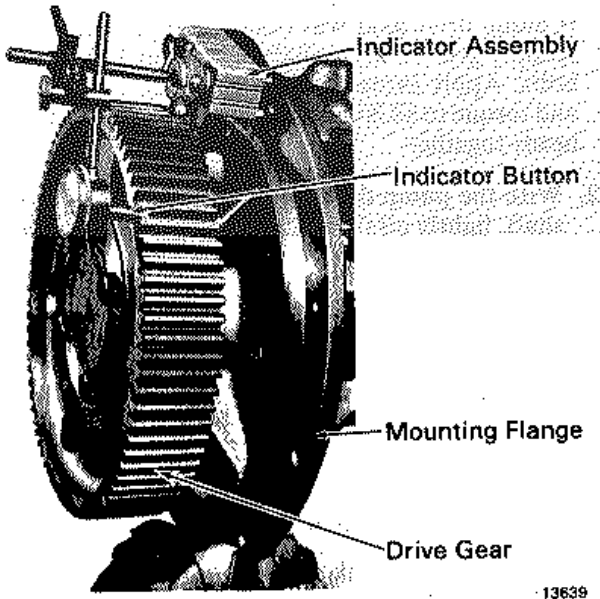

Fig. 9-15 - Checking Pump Drive Gear End Thrust
rim of the pump drive gear, Fig. 9-15. Push the drive gear inward so that all clearance is located at one end, then set the indicator to zero. Pull the drive gear outward to determine the amount of thrust clearance.
2. Check the thrust of the pump drive gears. This is done using the same indicator arrangement shown in Fig. 9-15 for the main lube oil pump. Attach the indicator holder to the pump flange with the indicator button contacting the rim of the pump drive gear. Push the drive gear inward to take up all thrust in one direction. Set the indicator button to zero and pull the drive gear outward to determine clearance. Thrust clearance using new parts should be within the specified limits.